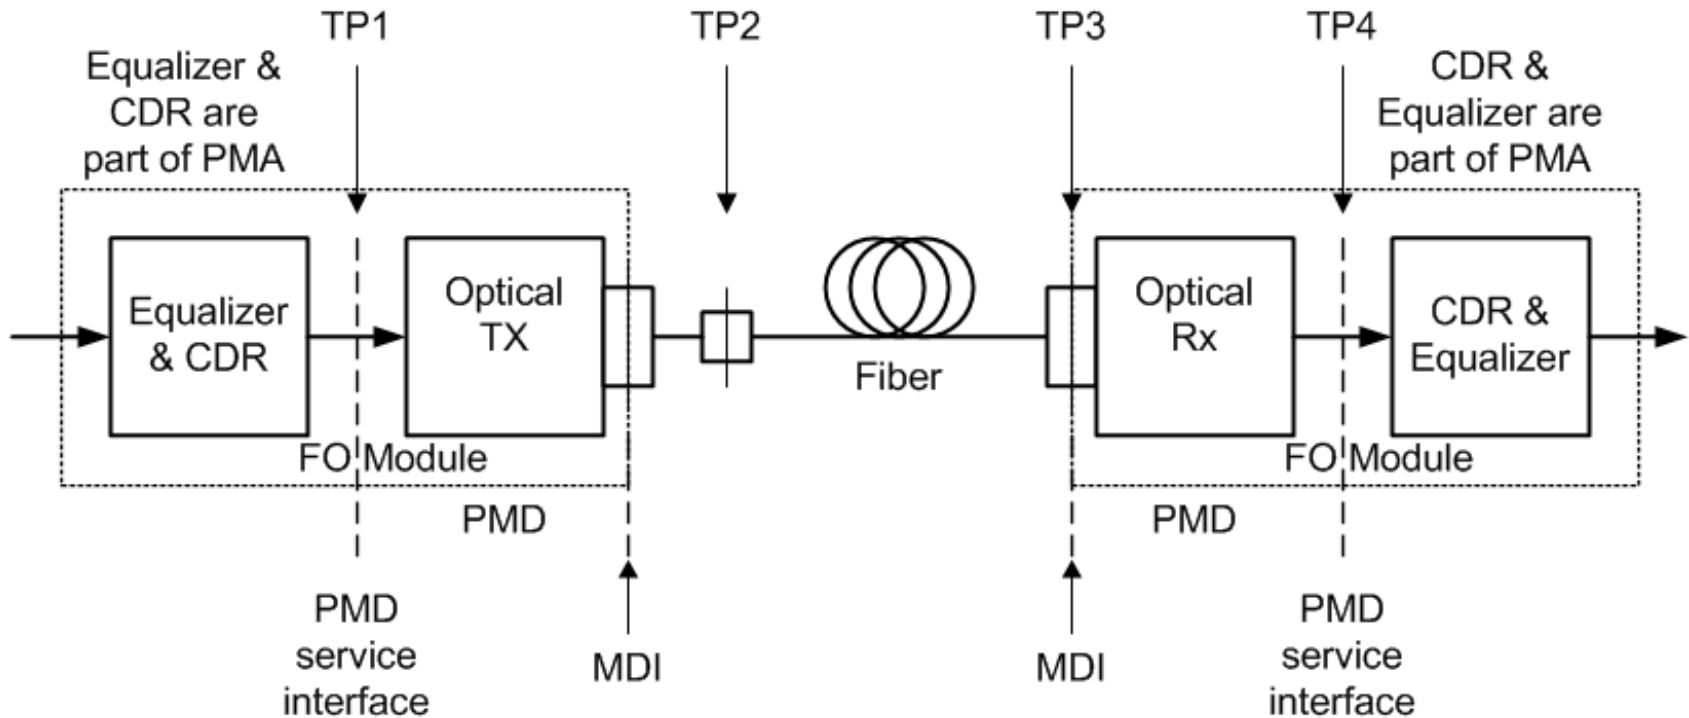

Figure 1
- For cases, as shown above in Figure 1, where retimers are incorporated in the optical module, the PMD service interface is not exposed. TP1 and TP4 remain as points on the PMD service interface and, consequently not exposed.